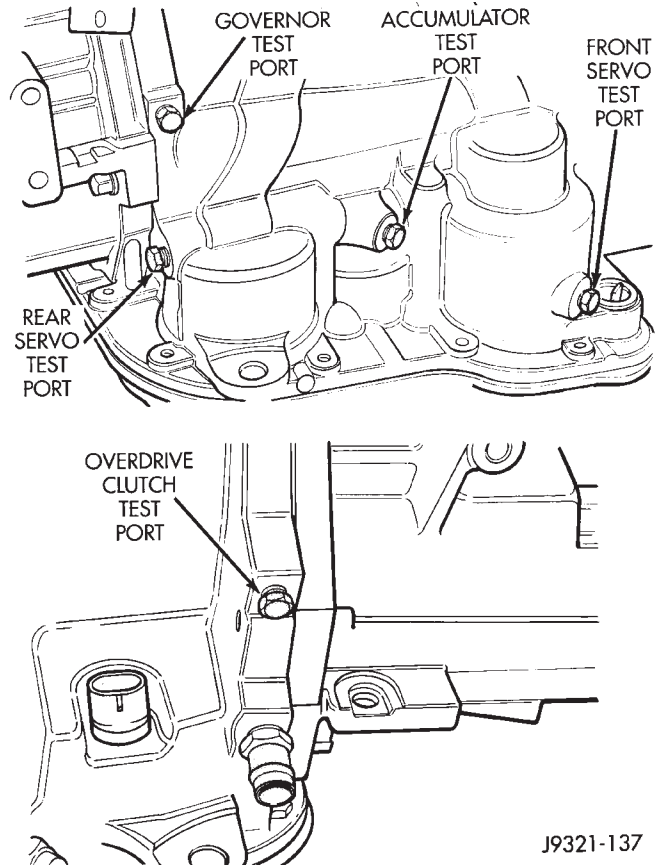

Fig. 12 Pressure Test Ports
Pressure test ports locations are provided at the accumulator, front servo, and rear servo, governor passage, and overdrive clutch pressure passage (Fig. 12).
The rear servo and governor pressure ports are at the right rear of the transmission case. The overdrive clutch pressure port is at the left rear of the case (Fig. 12).
(1) Connect 100 psi Gauge C-3292 to accumulator port.
(2) Connect 300 psi Gauge C-3293-SP to rear servo port (Fig. 12).
(3) Disconnect throttle and gearshift rods from manual and throttle levers.
(4) Start and run engine at 1000 rpm.
(1) Connect test gauge to accumulator pressure port (Fig. 12).
(2) Start and run engine at 1000 rpm.
(3) Move shift lever on valve body manual lever shaft, one detent rearward from full forward position. This is manual second.
(4) Move transmission throttle lever from full forward to full rearward position and read pressure at both gauges.
(5) Line pressure should be 54-60 psi (372-414 kPa) with throttle lever forward and gradually increase to 90-96 psi (621-662 kPa) as lever is moved rearward.
(1) Connect test gauges to accumulator and front servo ports (Fig. 12). Use either test gauge at the two ports.
(2) Start and run engine at 1600 rpm for this test.
(3) Move selector lever to D range. This is two detents rearward from full forward position.
(4) Read pressures on both gauges as transmission throttle lever is moved from full forward to full rearward position.
(5) Line pressure should be 54-60 psi (372-414 kPa) with throttle lever forward and gradually increase as lever is moved rearward.
(6) Front servo is pressurized only in D range and should be same as line pressure within 3 psi (21 kPa) up to downshift point.
(1) Connect 300 psi gauge to rear servo port (Fig. 12).
(2) Start and run engine at 1600 rpm for test.
(3) Move valve body selector lever four detents rearward from the full forward position. This is Reverse range.
(4) Move throttle lever all way forward then all way rearward and note gauge readings.
(5) Pressure should be 145 - 175 psi (1000-1207 kPa) with lever forward and increase to 230 - 280 psi (1586-1931 kPa) as lever is moved rearward.
(1) Connect 100 psi Test Gauge C-3292 to governor pressure port (Fig. 12).
(2) Move shift lever to D range.
(3) Start and run engine at curb idle speed and note pressure. At idle and with vehicle stopped, pressure should be zero to 1.5 psi maximum. If pressure exceeds this figure, governor valve or weights are sticking open.
(4) Slowly increase engine speed and observe speedometer and pressure test gauge. Governor pressure should increase in proportion to vehicle speed. Or approximately 1 psi for every 1 mph.
(5) Pressure rise should be smooth and drop back to 0 to 1.5 psi when wheels stop rotating.